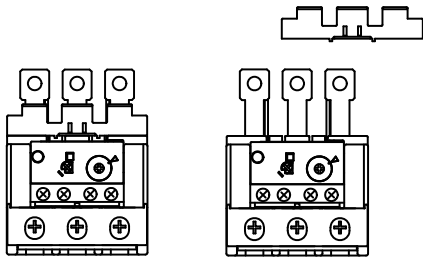

Fig.1
- (1) 与热过载继电器 CJR3-105B 组合的场合，应先从热过载继电器上取下端子盖。(Fig. 1)
- (1) In case of combination with thermal overload relay Type CJR3-105B, remove terminal cover from thermal overload relay before assembling. (Fig.1)